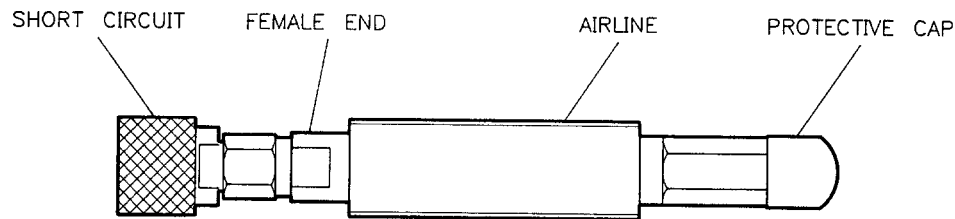

Figure 4-10. Attaching the Short to the Airline
3. Zero the connector gage (see Figure 4-10):
6. Remove the short circuit from the gage and attach the short circuit to the female end of the airline see Figure 4-10.